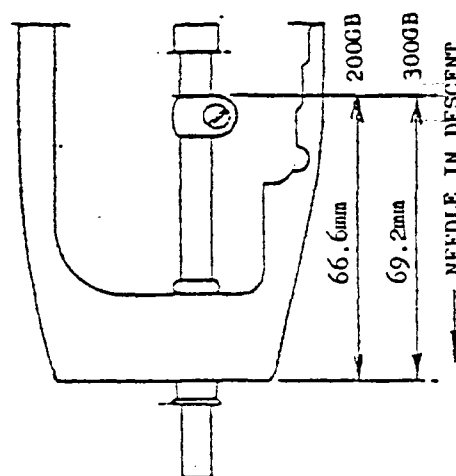

Fig. 24
2. Turn machine pulley over toward front of machine until the needle bar goes beyond its upper dead center and descends to the point shown in Fig. 24.